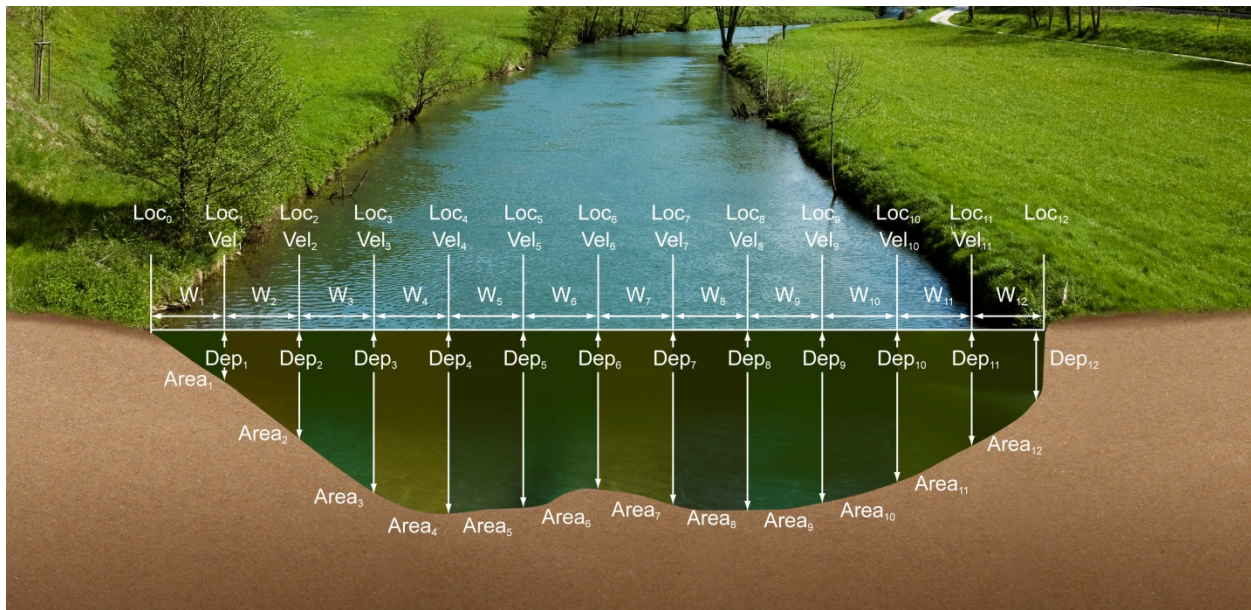

Figure 5:3 - Mean-Section Method
The application of the Mean-Section equation within a measurement section is graphically shown in Figure 5:3. The principle of the Mean-Section method is shown in the figure below where panel width (W) is calculated based on the station locations between adjacent stations across the section.